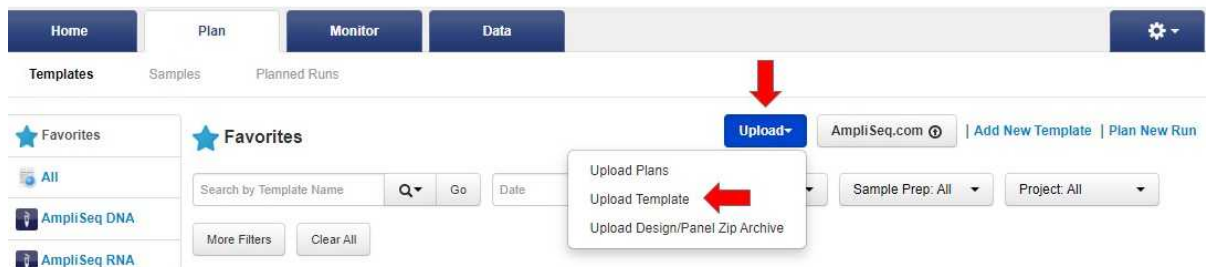

Figure 3. Screenshot of the “Upload” drop down menu
3. Click the blue “Upload” button, as shown in figure 3.
4. Select “Upload Template” from the drop-down menu, as shown in figure 3. An “Import Plan Template” window will pop up, as shown in figure 4.